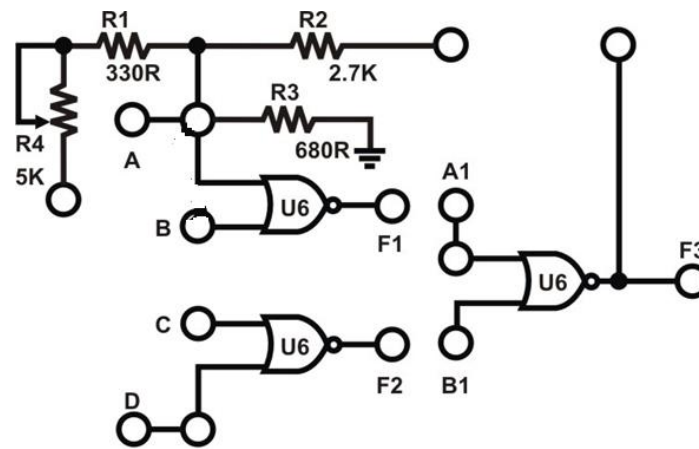

Figure 1.8: KL-33002 NOR Gate Block.
- a) Set module KL-33002 and locate (block a) as shown in Figure 1.8. Connect the +5V of module KL-33002 to the +5V output of the fixed power supply KL-31001. And do the same for ground (GND).
- b) Then select the first gate OR gate in Figure 1.8. Connect inputs A and B with Data switch TTL level in power supply SW0 and SW1. connect output F1 with Logic Indicator (LED) L0 in the power supply. write the result in Table 1.1.